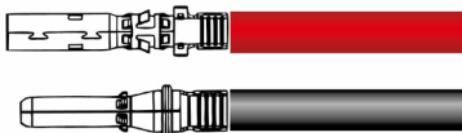

Figure 5.11 Crimping a metal connector
**Step 2** Insert the exposed areas of the positive and negative power cables into the metal terminals of the positive and negative connectors respectively and crimp them using a crimping tool, as shown in **Figure 5.11**.